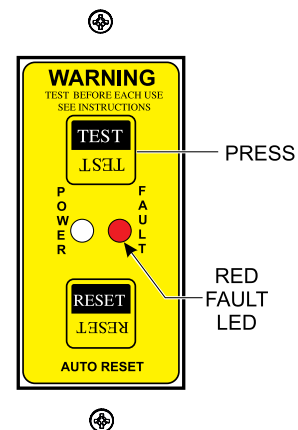

Figure 52. GFCI Module (Red/Fault LED ON)
5. Next, press the **TEST** button on the GFCI sensing module (Figure 52) and verify that the **green** POWER LED turns **OFF** and the **red** FAULT LED turns **ON**.